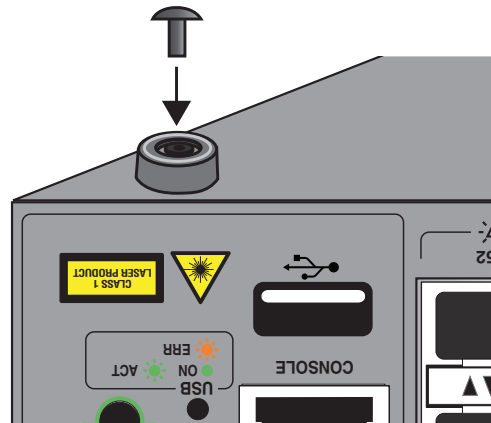

Figure 15. Inserting the Rivet into the Bumper Foot
4. Insert the rivet to secure the bumper foot to the base. Refer to Figure 15.